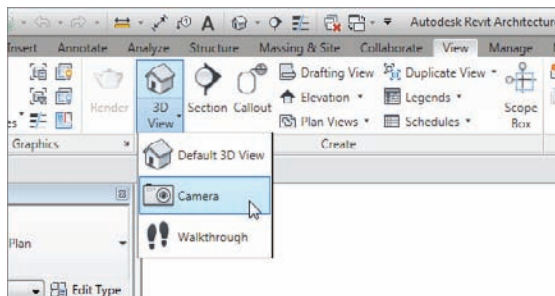

FIGURE 3.69 Adding a camera view
2. On the View tab, click the drop-down arrow in the 3D View button and select Camera, as shown in Figure 3.69.